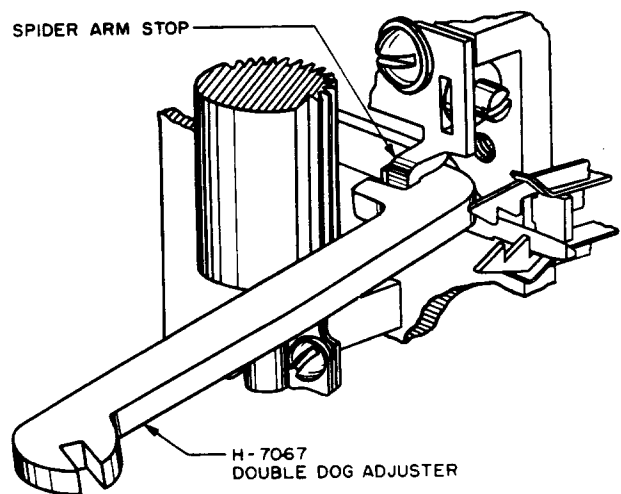

Fig. 10 – Method of Adjusting the Spider Arm Stop
(1) To center the wipers on the block contacts in the third side switch position, adjust the spider arm stop as required with the H-7067 double dog adjuster as shown in Fig. 10.